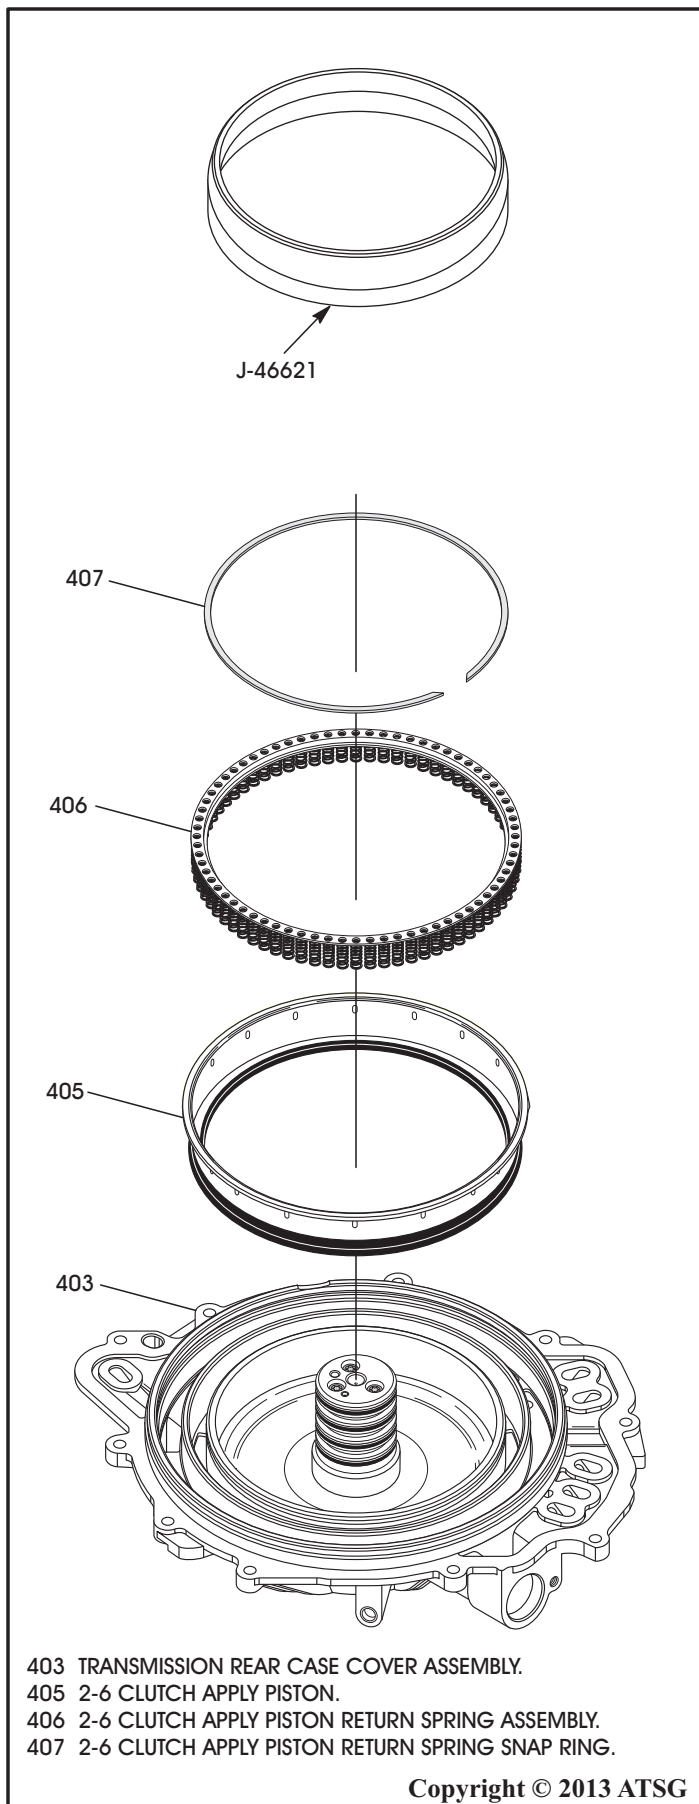

Figure 131
10. Install new 2-6 clutch apply piston, as shown in Figure 131, using seal protector J-46621.
11. Install the 2-6 clutch apply piston return spring assembly, as shown in Figure 131.